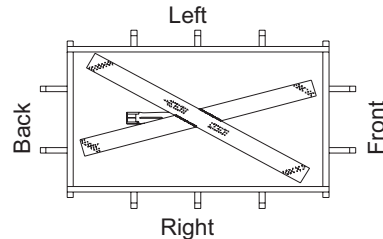

Figure 45 - Burner and Grate (Top View)
5. Figure 45 shows top view of burner and grate.